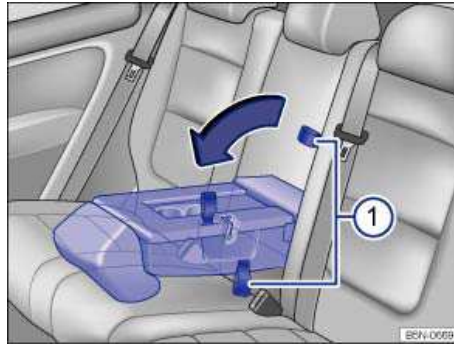

Fig. 54 Folded down rear center armrest.
To *fold down* the center armrest, push the head restraint of the middle seat all the way down ⇒ page 78, *Adjusting the seating position* and fold the center armrest forward using the pull strap ⇒ fig. 54 (1).